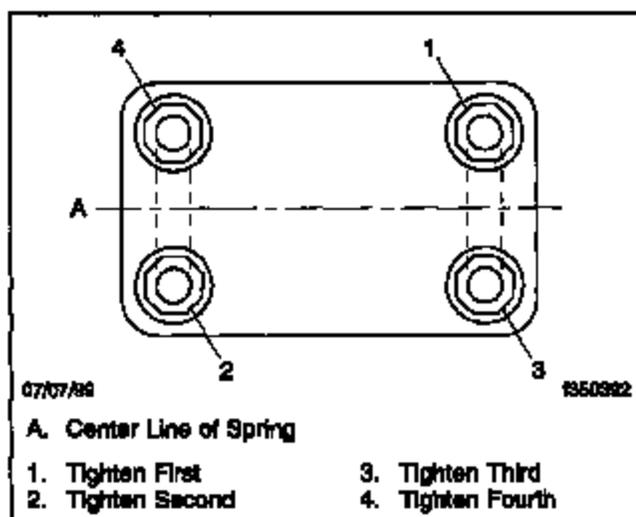

Fig. 5, U-Bolt Nut Tightening Sequence
- 17.2 Install the washers and tighten the nuts finger-tight in the order shown in Fig. 5.
**IMPORTANT: U-Bolt Nuts must be tightened in the order detailed in Fig. 5.**
- 17.3 Tighten the nuts to 20 lbf-ft (27 N-m) then to 60 lbf-ft (81 N-m) then to 120 lbf-ft (163 N-m) and then to 200 lbf-ft (271 N-m) in four separate rotations following the order shown in Fig. 5.